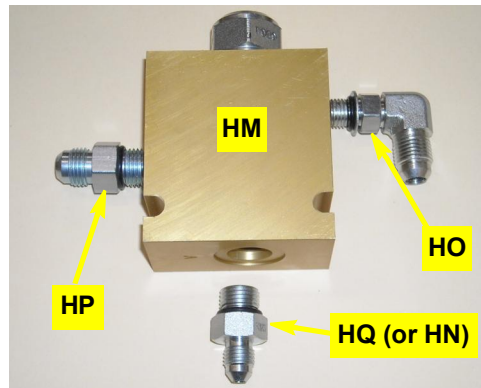

Figure 5a: Preparing the load sense shuttle valve
a. Assemble the load sense shuttle valve **HM** as follows (Figure 5a):